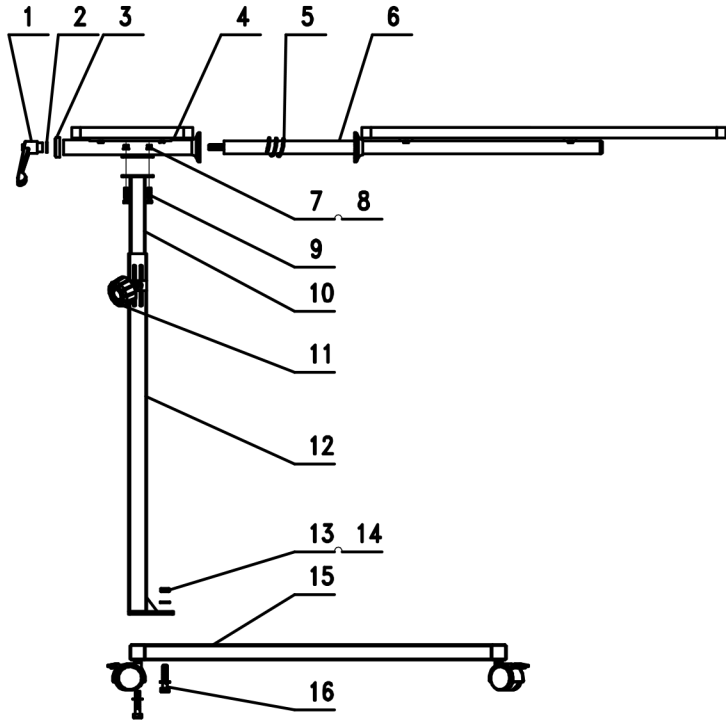

Figure: 1
Step1: Open the package, remove the each components (see Figure 1).